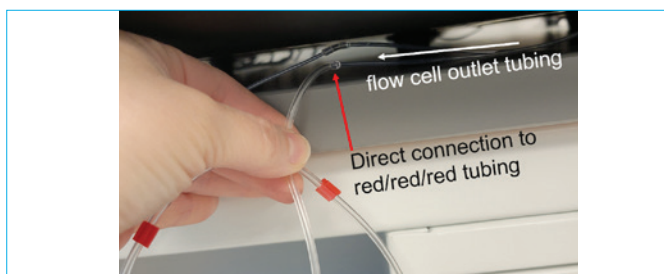

Figure 18: Union between sample probe and flow-through cell inlet tube.
1. The outlet tubing from the flow cell will also come out the bottom of the instrument. Connect this tubing directly into the peristaltic pump tubing (1.14 mm ID red/red/red) as seen in Figure 18.